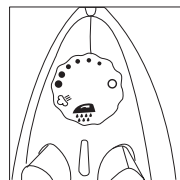

Figure 4:
- Fill the tank to the maximum filling level (11).
- Set the temperature control dial (10) to the max position.
- Allow the appliance to heat up until the Heating / Auto Shut-Off Lamp (1) switches off and then on again.
- Unplug the appliance. Move the slider lock (5) to the storage position position so the cord adaptor & power cord are connected to the base, then take the cordless iron and hold it over the sink.
- Rotate the variable steam / self clean position (Fig 4). Hot water and steam will come out of the vents- Impurities and scale will be washed away.
- Release the self-clean (15) button. The control has a spring return mechanism and will shut off once released.
- Iron an old cloth or towel to dry the sole plate (8).